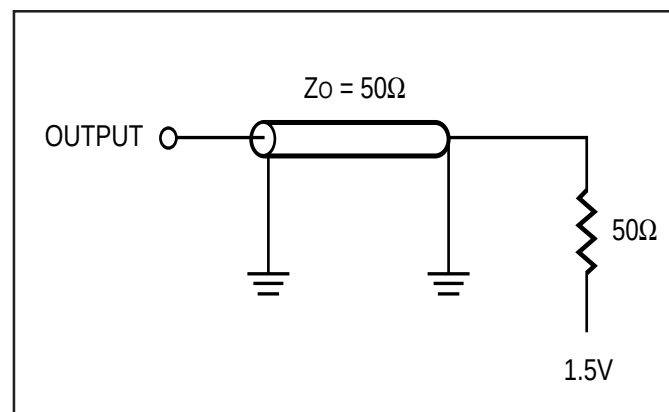

Figure 1
| Output Load                                 | See Figures 1 and 2 |
2. Tested with load in Figure 1,2,3,4..